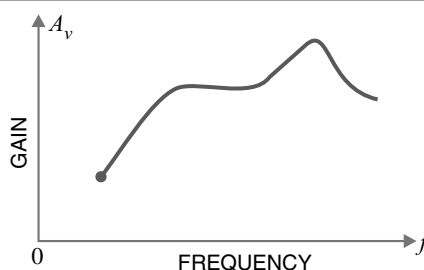

Fig. 9.25
**Frequency response.** The frequency response of a transformer coupled amplifier is shown in Fig. 9.25. It is clear that frequency response is rather poor *i.e.* gain is constant only over